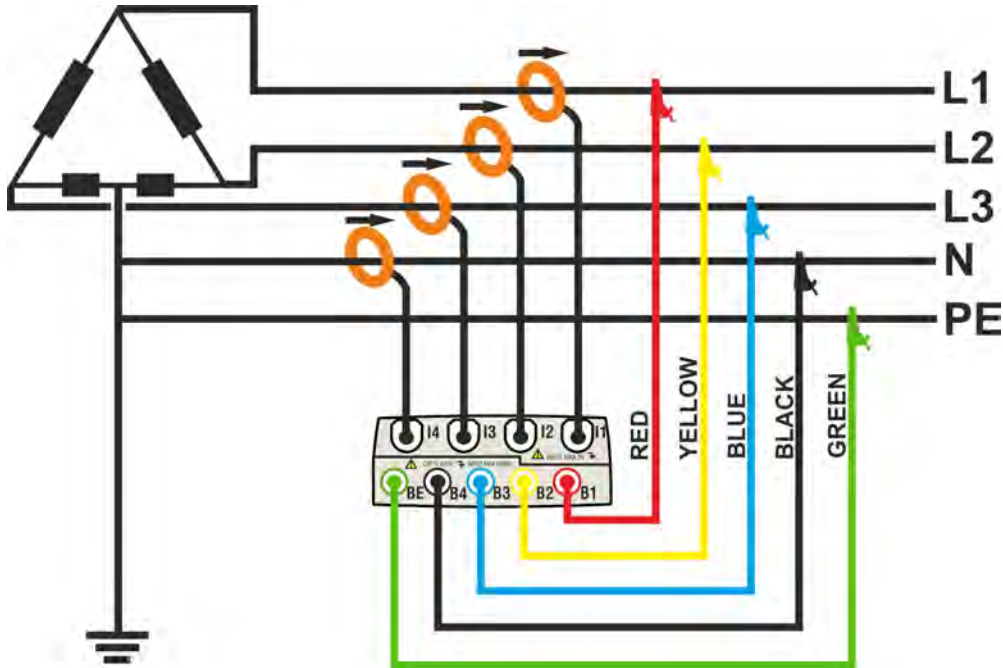

Fig. 139: Meter connection in a three phase 3PHL system – ENG_UK type
2. Connect voltage test leads on Phases L1, L2, L3, N and PE cables considering the colours as shown in Fig. 139. **Verify the result “123” at display relative to a correct phase sequence indication** (see § 5.2.1) and perform the corrections if necessary.
3. Connect the transducer current clamps on Phase L1, L2, L3 and N cables as shown in Fig. 139 respecting the clamp’s arrow direction indicating the current standard sequence from generator to load. **On Real Time Values’ section screens (selecting a 3 wire system preliminarily) always verify the positive value of Active Power and the power factor relative to load which should be normally inductive** before starting a recording. Reverse the clamp by 180 degrees on cables in case of negative readings.